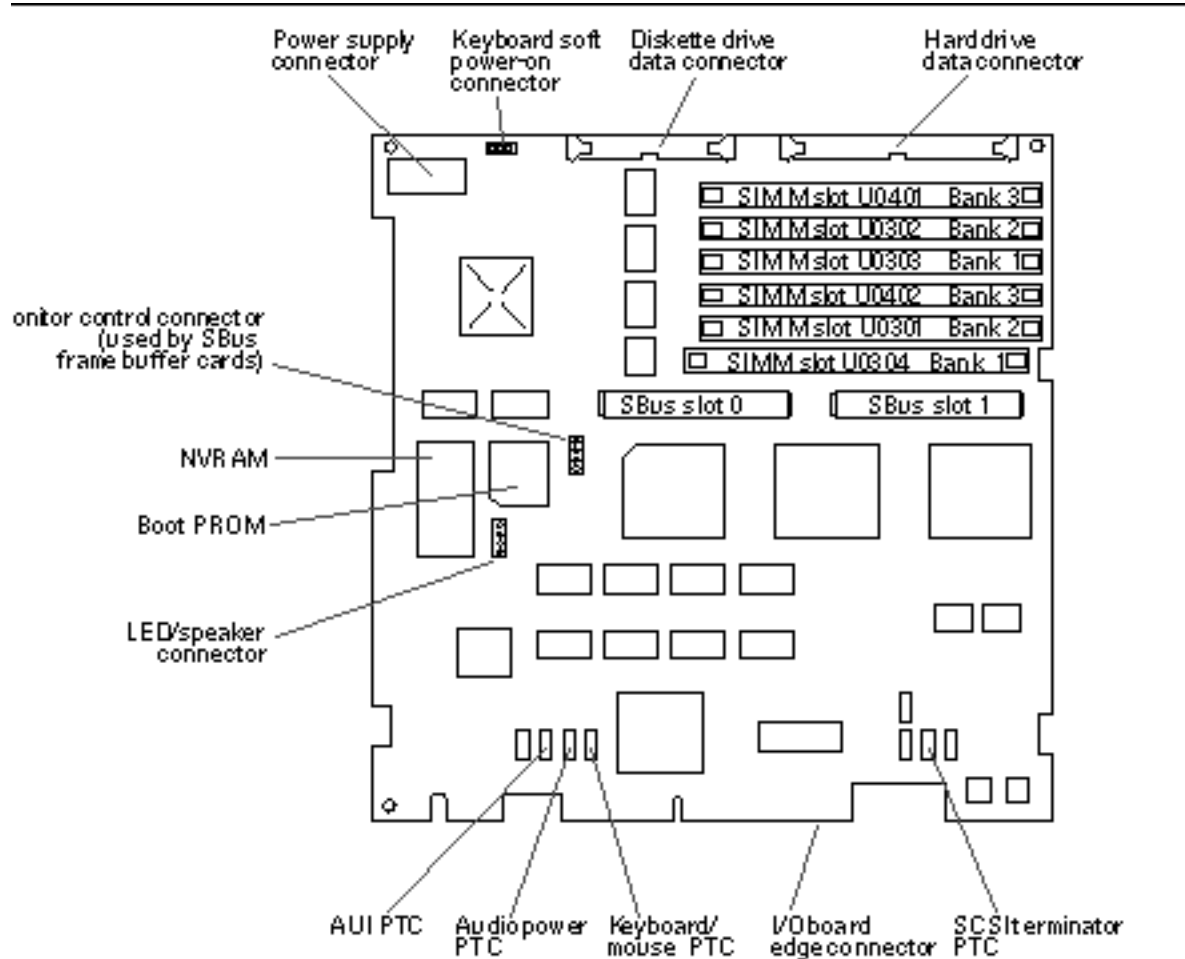
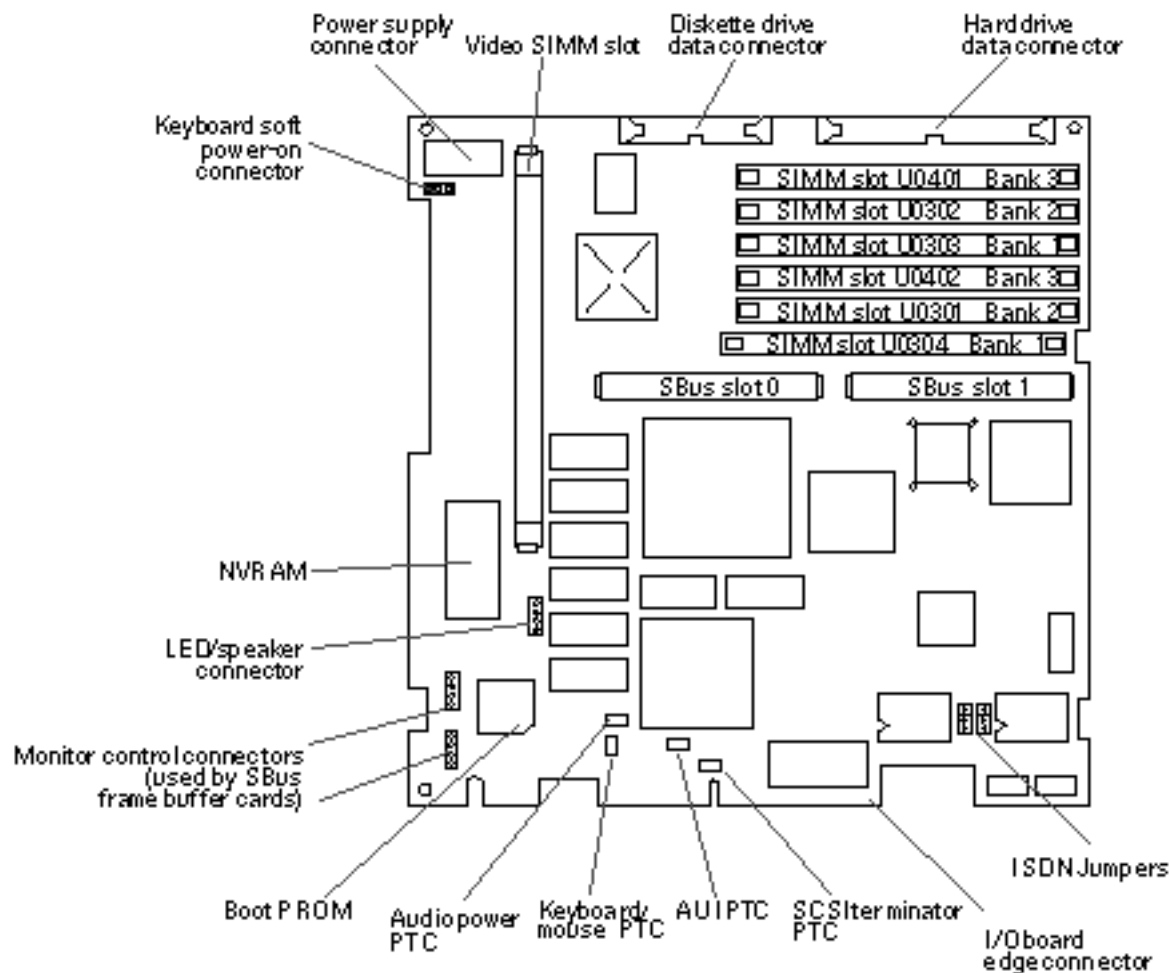
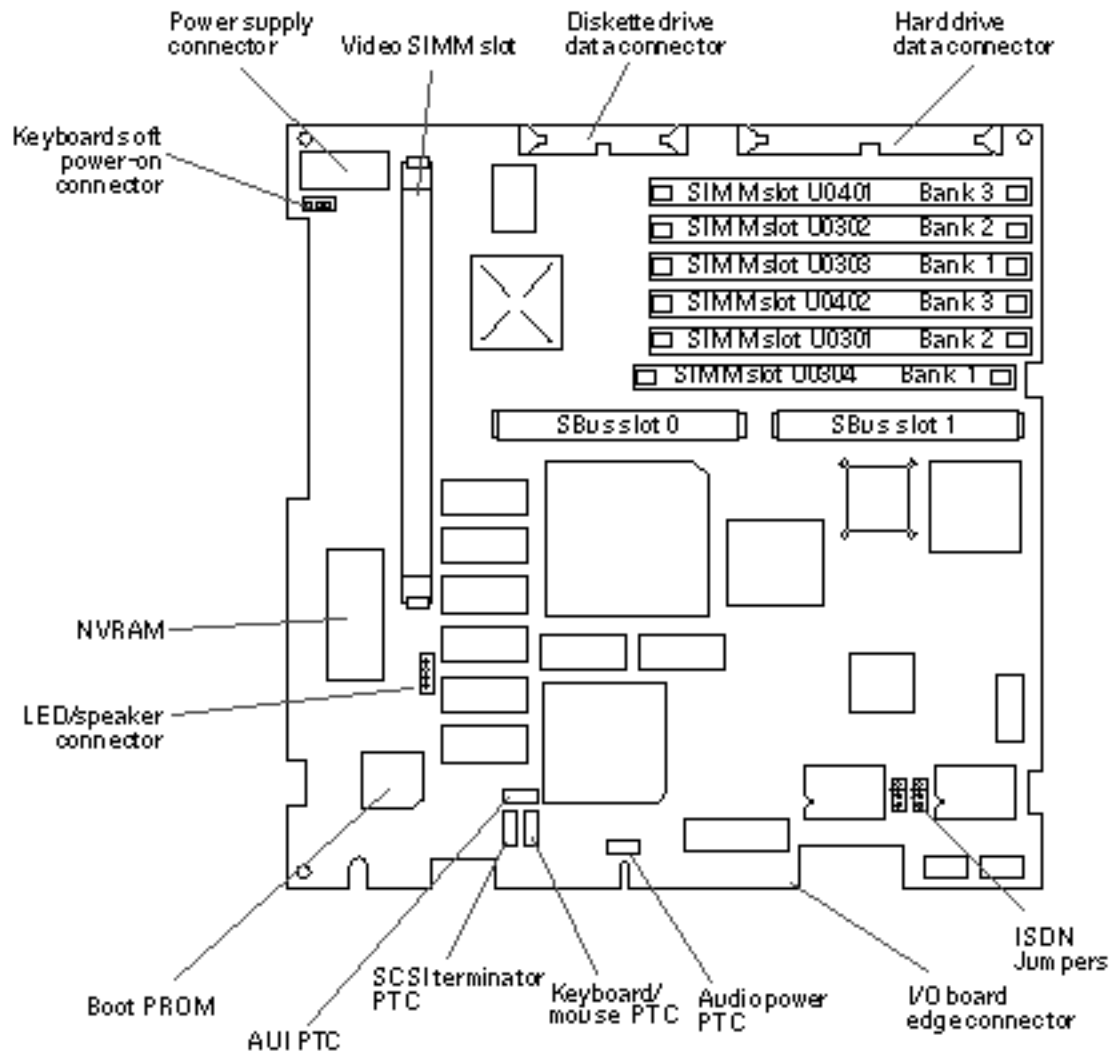
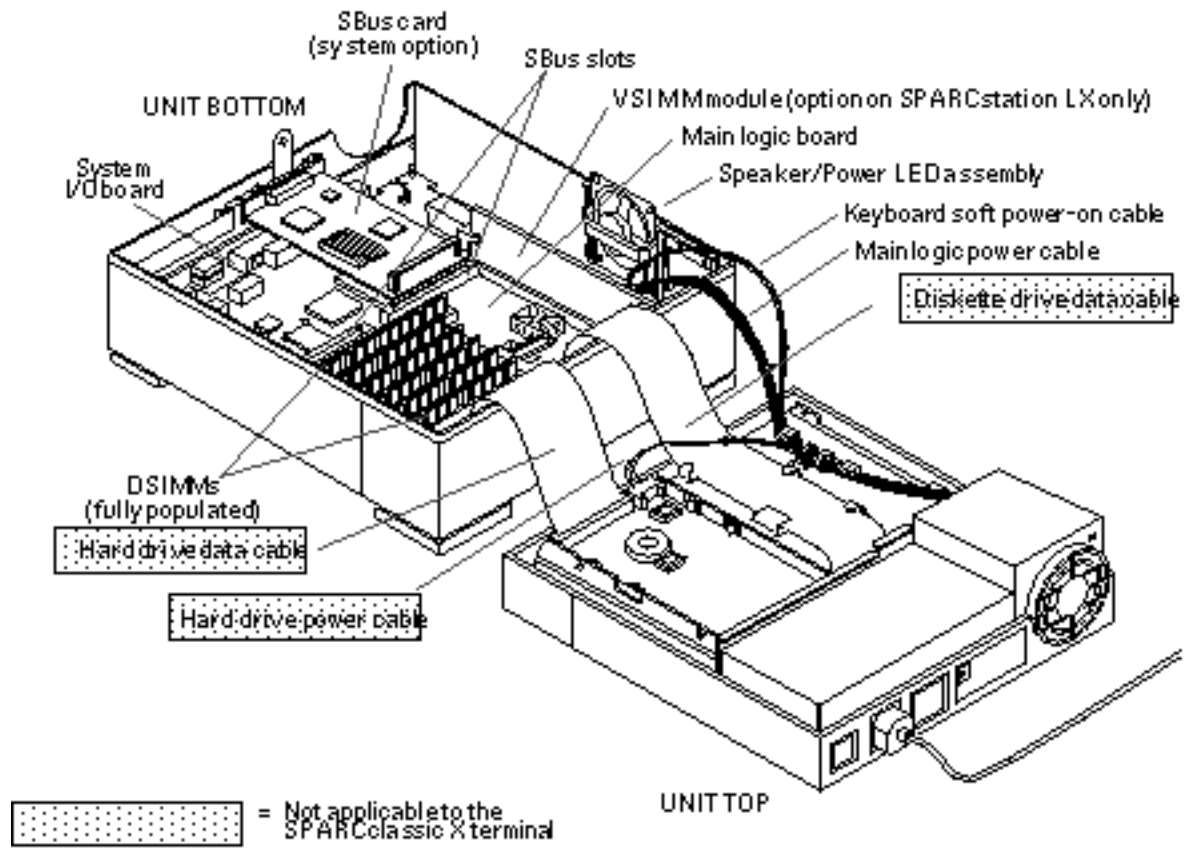

Figure 10-1 Main Logic Board Layout—SPARCclassic/SPARCclassic X Systems
Figure 10-2 Main Logic Board Layout—SPARCstation LX System (Part 270-2233)
Figure 10-3 Main Logic Board Layout—SPARCstation LX System (Part 270-2474)
Figure 10-4 View of Open System Unit
The main logic board (MLB) resides in the bottom half of each system unit (see Figure 10-4). Figure 10-1 shows a simplified layout of the SPARCclassic and the SPARCclassic X terminal main logic board. Table 10-2 lists acronyms and abbreviations for certain components.
Figure 10-2 and Figure 10-3 illustrate the SPARCstation LX main logic boards.
Visually identify each CRU by looking at the appropriate system board layout illustration from Figure 10-1, Figure 10-2, or Figure 10-3, and by looking at the unit bottom illustration in Figure 10-4. Table 10-2 lists acronyms and abbreviations for certain components of the MLB.
**Note** - As noted in the part labels shown in Figure 10-4, some items are not applicable to the SPARCclassic X terminal.